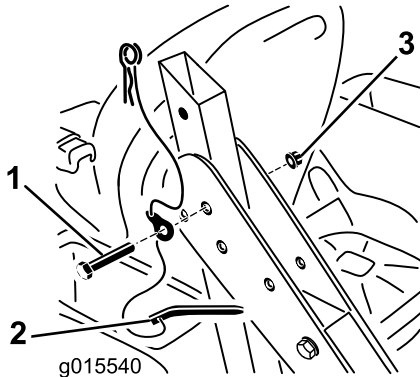

Figure 4
3. Attach the rollbar to the rollbar supports as shown in Figure 4. Leave the bolts just loose enough to allow the rollbar to freely pivot.